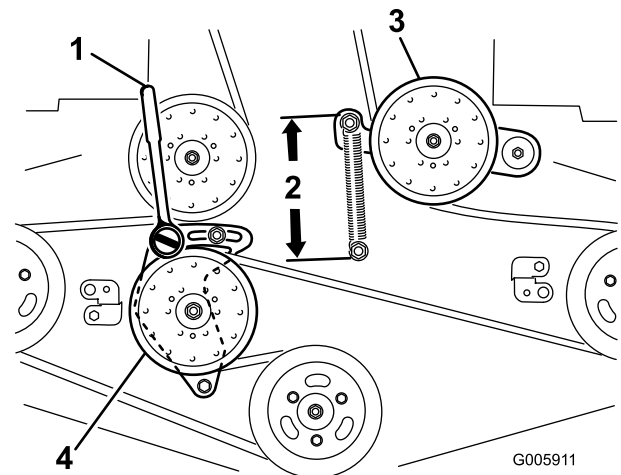

Figure 59
4. Loosen the fixed idler arm and adjust it to relieve belt tension (Figure 59).
9. To increase the belt tension, rotate the ratchet or breaker bar counterclockwise to move the fixed idler arm until there is 6–1/2 inches (16.5 cm) between the spring hooks (Figure 59).
7. Insert a ratchet with a short extension or a breaker bar into the square hole in the fixed idler arm (Figure 59).